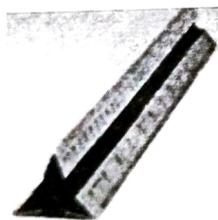

Fig. 1
2. **Straight Edge:** is a flat graduated steel bar with one longitudinal edge bevelled. It is useful for scribing long straight lines Fig. 1.